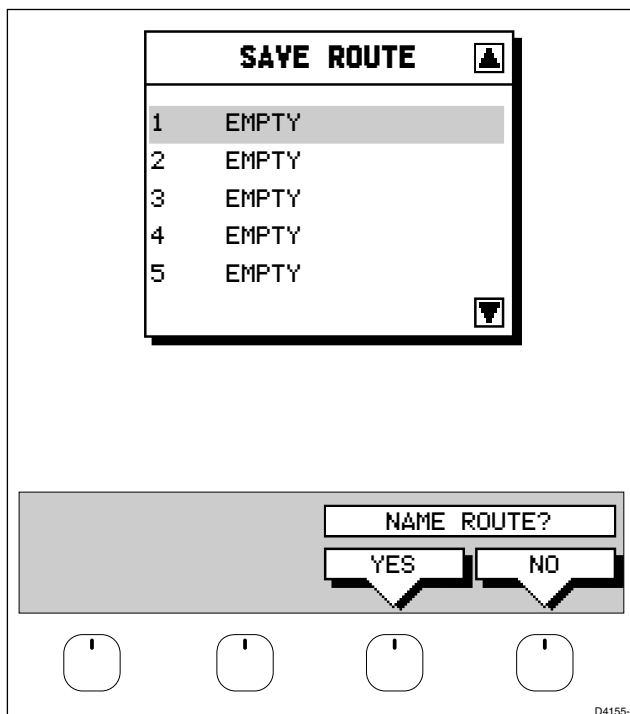

Figure 5-5: Save Route Window
2. Press the **SAVE ROUTE** soft key. The save route pop-up and the **NAME ROUTE** soft keys are displayed as illustrated in *Figure 5-5*.